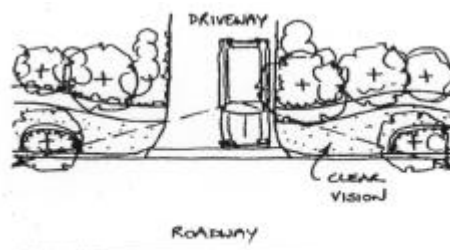

Figure 3
- Vegetation should not exceed 0.6 metre in height within 3 metres of any driveway, to ensure that a clear line of sight is maintained when entering or exiting your property (figure 3).